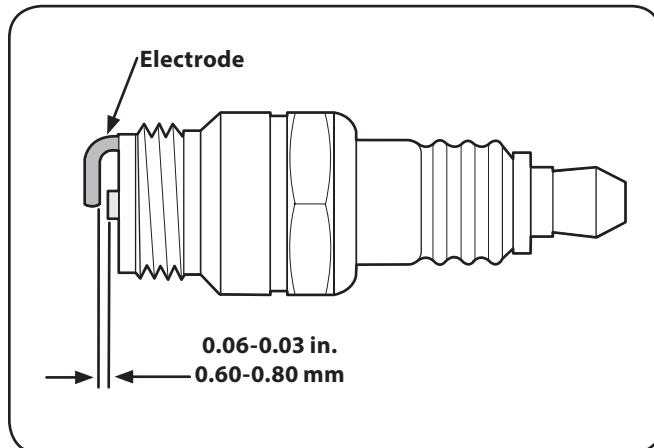

Figure 6-4
6. Measure the plug gap with a feeler gauge. Correct gap as necessary by bending the side electrode. See Figure 6-4. The gap should be set to 0.030 in. (0.76mm).